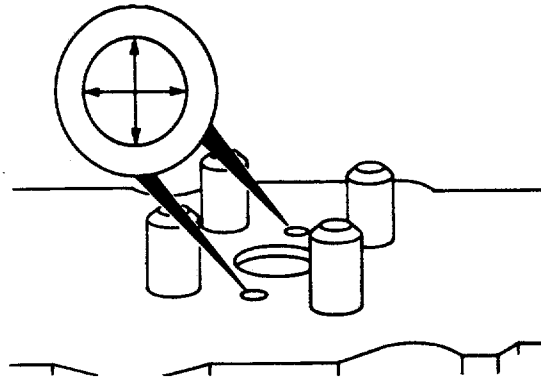

FIGURE 4-33. Crosshead Guide Bore Measurement.
- (2) Use inside micrometer to measure the inside diameter of the crosshead guide bore in the cylinder head (FIG. 4-33). Verify diameter is between 0.4314 and 0.4325 inch (10.958 and 10.986 mm).